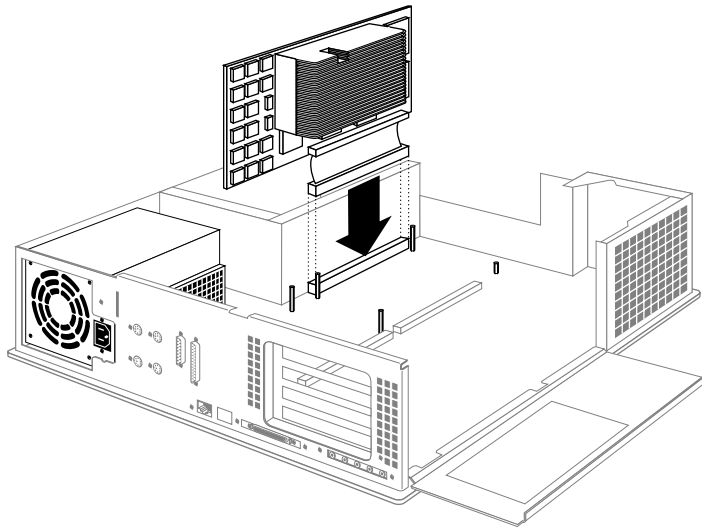

Figure 2-15 Positioning the R8000 CPU Module
4. Remove the R8000 CPU module from its anti-static bag and position it as shown in Figure 2-15.